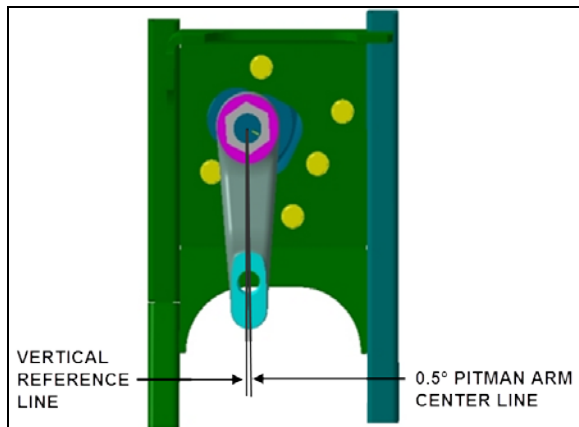

FIGURE 23: IFS PITMAN ARM ALIGNMENT
- Check that the angular relationship of the pitman arm to the steering gear is as shown in Figure 23.